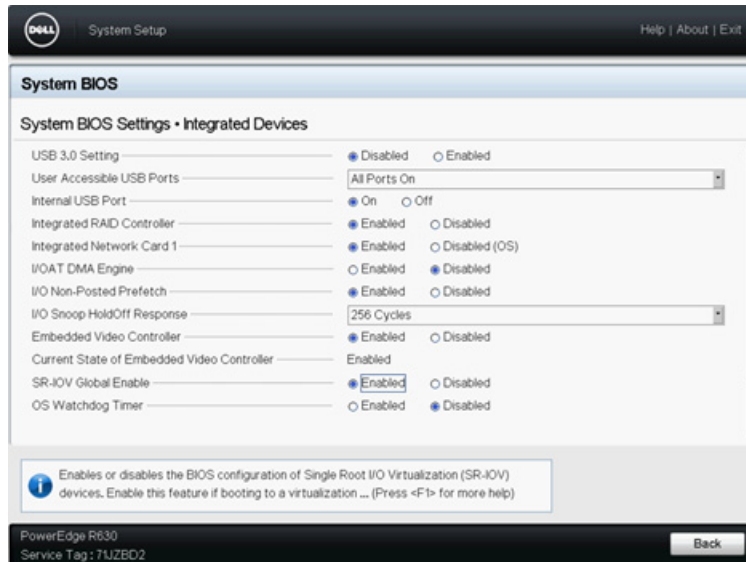

Figure 8-1. System Setup for SR-IOV: Integrated Devices
3. On the Integrated Devices page (Figure 8-1):
3. On the System Integrated Devices page (see Figure 8-1 on page 100):